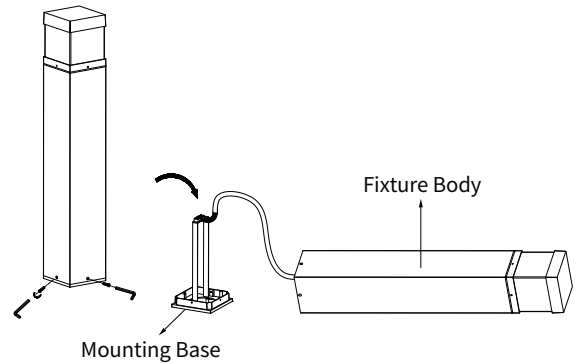

Fig 6
7. Using the hex wrench, loosen the 4 screws on the side of the bottom, and separate the fixture body from the mounting base. **Fig. 6**